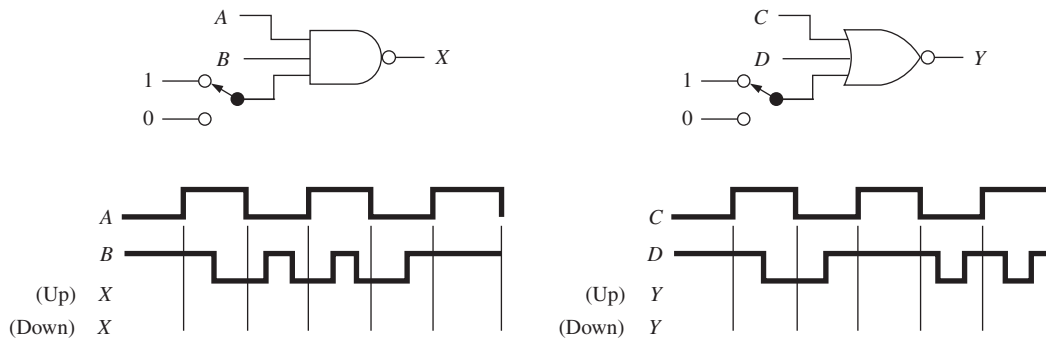

Figure P3-32
3-32. Using Figure P3-32, sketch the waveforms at X and Y with the switches in the down (0) position. Repeat with the switches in the up (1) position.
3-33. In words, what effect does the switch have on each circuit in Figure P3-32?